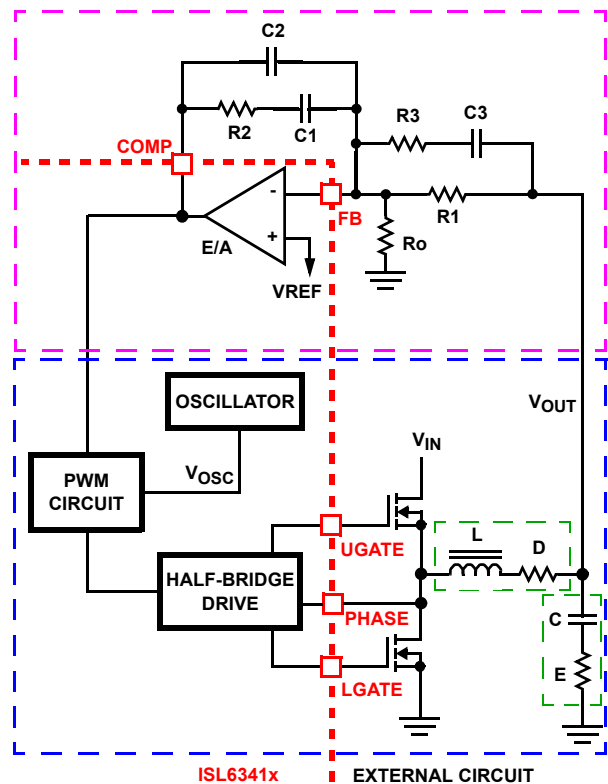

FIGURE 13. VOLTAGE-MODE BUCK CONVERTER COMPENSATION DESIGN
address a broad range of applications, a type-3 feedback network is recommended, as shown in the top part of Figure 13.
Figure 13 also highlights the voltage-mode control loop for a synchronous-rectified buck converter, applicable to the ISL6341x circuit. The output voltage ( $V_{OUT}$ ) is regulated to the reference voltage,  $V_{REF}$ . The error amplifier output ( $COMP$  pin voltage) is compared with the oscillator ( $OSC$ ) modified sawtooth wave to provide a pulse-width modulated wave with an amplitude of  $V_{IN}$  at the  $PHASE$  node. The PWM wave is smoothed by the output filter ( $L$  and  $C$ ). The output filter capacitor bank's equivalent series resistance is represented by the series resistor  $E$ .
( $F_0$ ; typically 0.1 to 0.3 of  $f_{SW}$ ) and adequate phase margin (better than  $45^\circ$ ). Phase margin is the difference between the closed loop phase at  $F_{0dB}$  and  $180^\circ$ . The equations that follow relate the compensation network's poles, zeros and gain to the components ( $R_1, R_2, R_3, C_1, C_2$ , and  $C_3$ ) in Figure 13. Use the following guidelines for locating the poles and zeros of the compensation network:
4. Select a value for  $R_1$  ( $1k\Omega$  to  $5k\Omega$ , typically). Calculate the value for  $R_2$  for desired converter bandwidth ( $F_0$ ). If setting the output voltage via an offset resistor connected to the FB pin ( $R_0$  in Figure 13), the design procedure can be followed as presented in Equation 4.